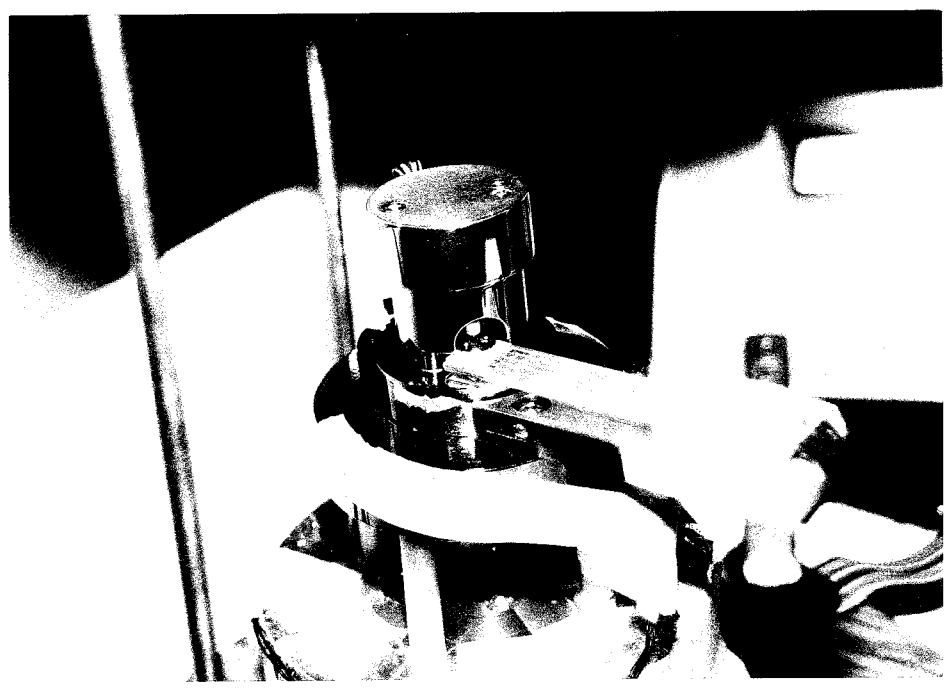

FIGURE 2
- Figure 2:** Closeup of MMR refrigerator mounted to beam which is attached to the sample mount of the STM.